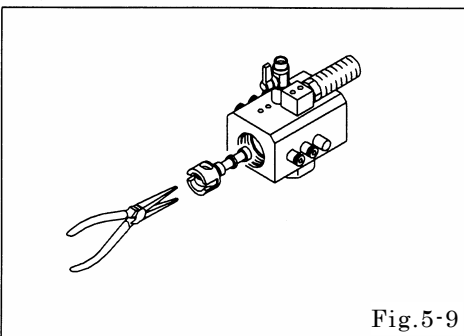

Fig.5-9
- Use a plyer remove C Spool assembly. [Fig.5-9]